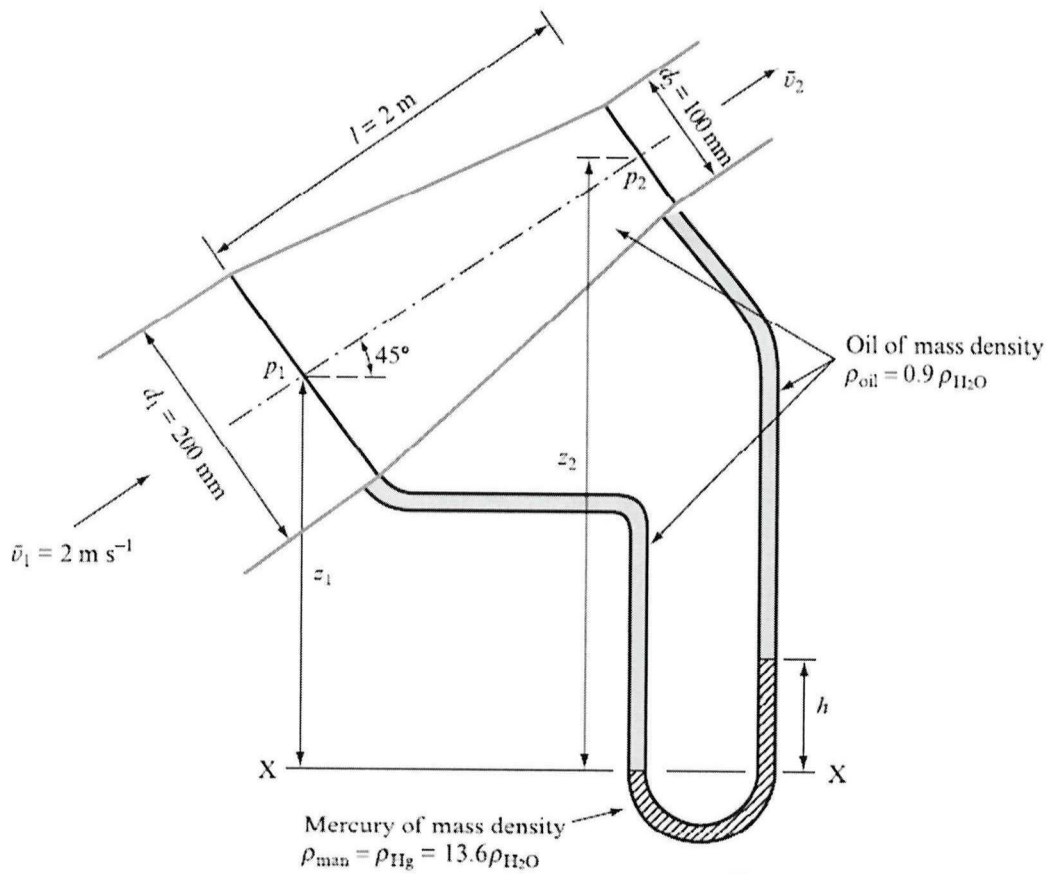

FIGURE Q3 (c)
- (c) A pipe inclined at 45° to the horizontal as shown in **Figure Q3 (c)** converges over a length l of 2 m from a diameter d_1 of 200 mm to a diameter d_2 of 100 mm at the upper end. Oil of relative density 0.9 flows through the pipe at a mean velocity C_1 at the lower end of 2 m/s. Find the pressure difference across the 2 m length ignoring any loss of energy, and the difference in level that would be shown on a mercury manometer connected across this length. The relative density of mercury is 13.6 and the leads to the manometer are filled with the oil.